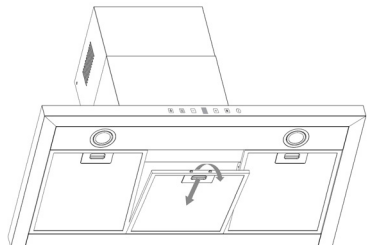

Fig. 1 - Your model might differ slightly
- 1) Remove the filters according to Fig. 1.
- 1) Remove the grease filters as shown in Fig 1.